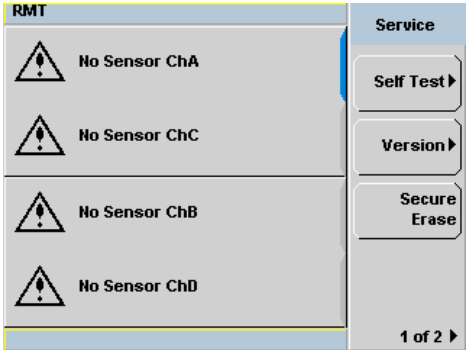

Figure 2-53 Secure Erase
- 1 Press **System**, **1 of 2** and select **Service**. In the **Service** menu, select **Secure Erase** (see Figure 2-53).